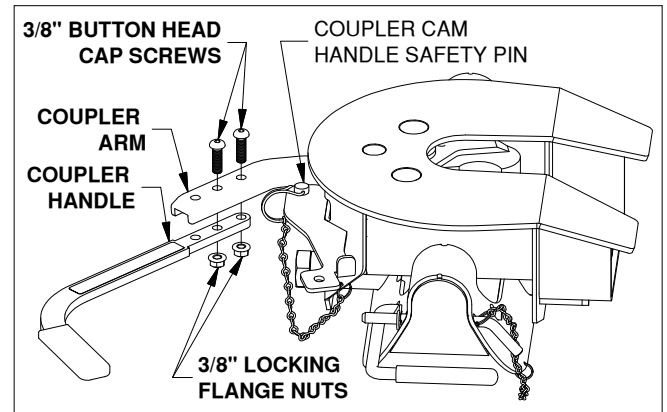

FIGURE D1: View looking down at side of coupler head.
- Locate the two 3/8" x 1-1/4" button head cap screws and the two 3/8" flanged lock nuts provided in a bolt bag. Pull out the coupler arm and pin it with the safety locking pin near the base of the arm as shown in figure D1.
- Using the button cap screws and the lock nuts attach the coupler handle to the arm and tighten, see figure D1. Pull out the coupler cam handle safety pin.